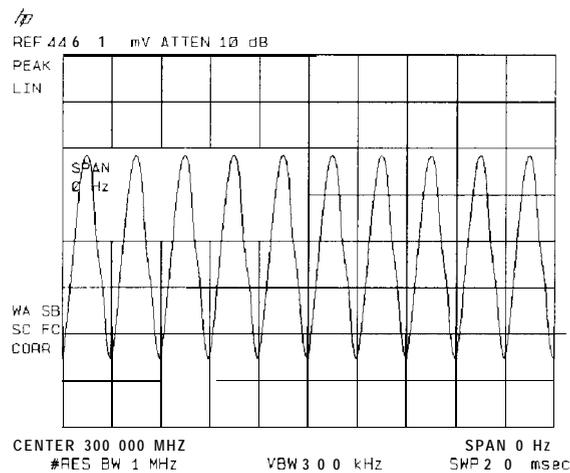

Figure 3-27. Measuring Modulation in Zero Span
- To select zero span, either press (SPAN), 0 **Hz** or press ZERO SPAN . See Figure 3-27. If the modulation is a steady tone (for example, from a signal generator), use video trigger to trigger on the waveform and stabilize the display. Adjust the sweep time to change the horizontal scale.